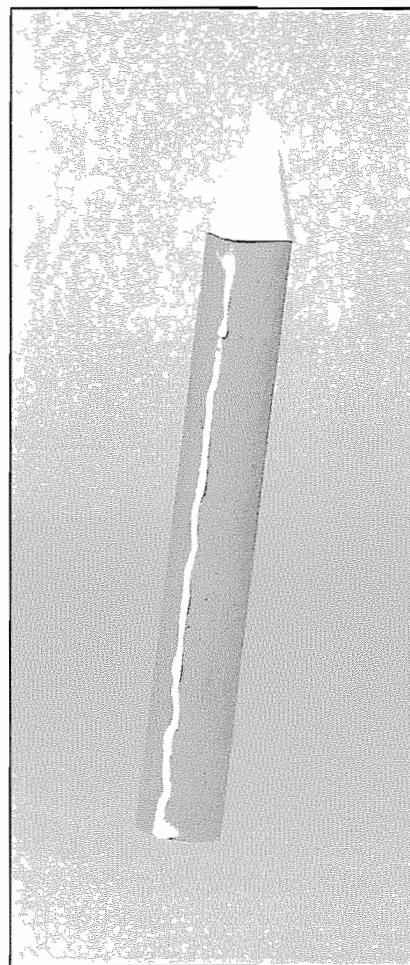
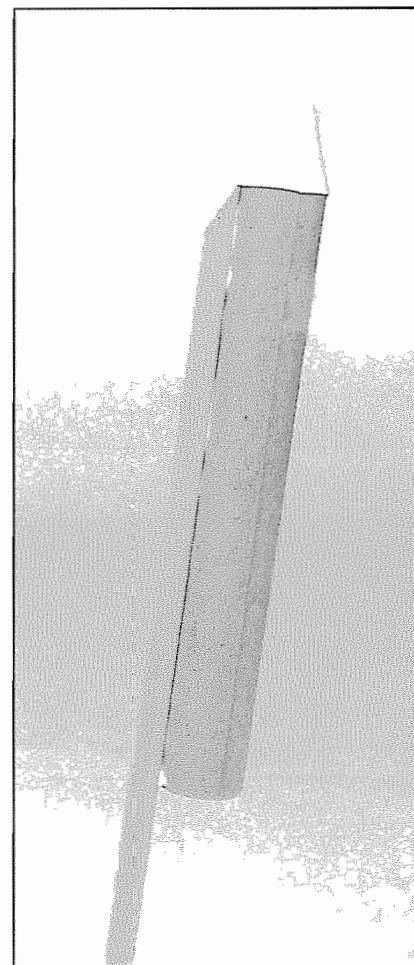
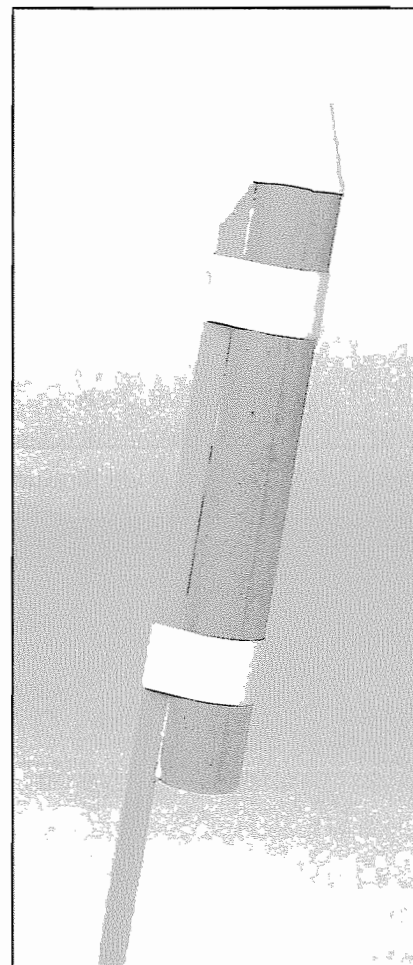

Figure 19-11. A bead of glue is run lengthwise along the side of the motor.
Figure 19-12. The stick is pressed firmly into place.
Figure 19-13. Two rings of masking tape lock the stick firmly to the motor.
3. Remove the temporary tape, run a bead of glue lengthwise along the side of the motor (*Figure 19-11*), and press the stick into place (*Figure 19-12*). Notice in this photo how I've cut the front of the stick at an angle. This further reduces drag, and improves performance even more. Wrap the stick to the motor with two bands of masking tape *several layers thick* (*Figure 19-13*), and the rocket is finished.